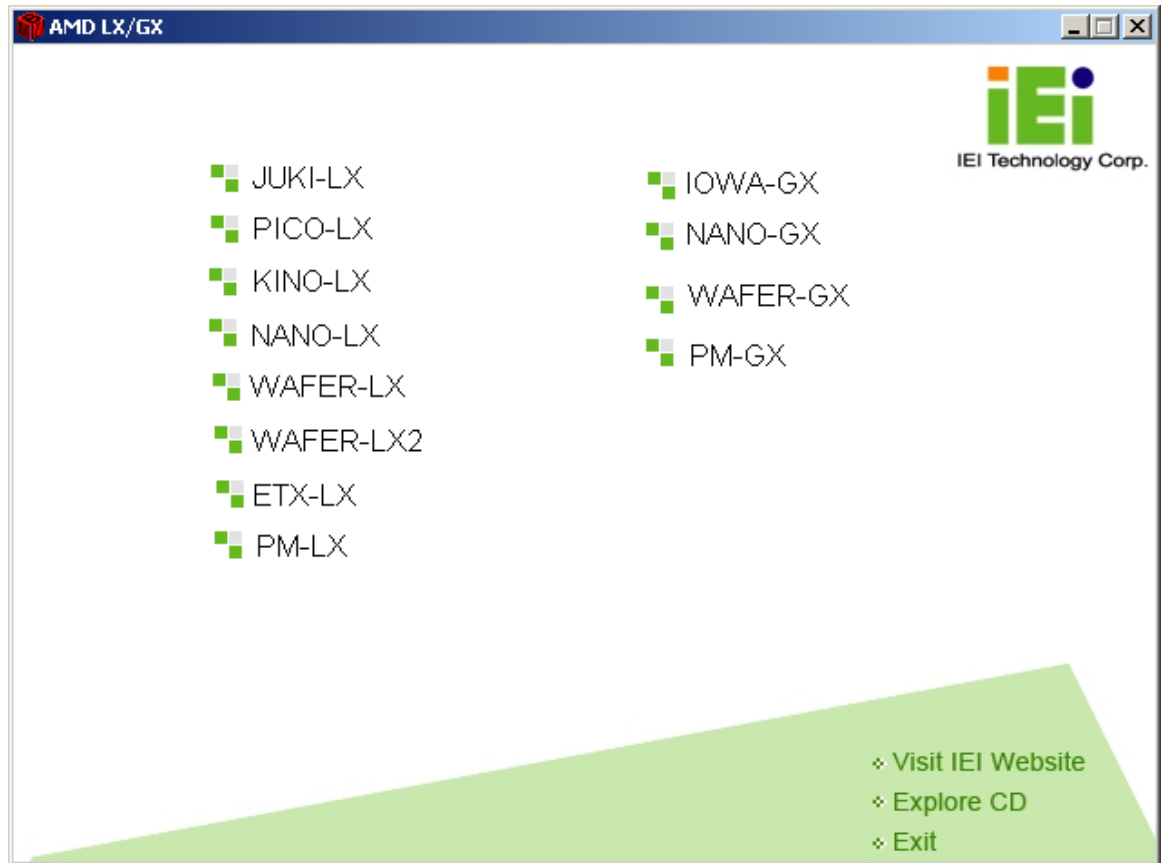

Figure 6-1: AMD LX/GX CD Main Menu
Step 1: From the AMD LX/GX Driver CD main menu (**Figure 6-1**), click **KINO-LX**.